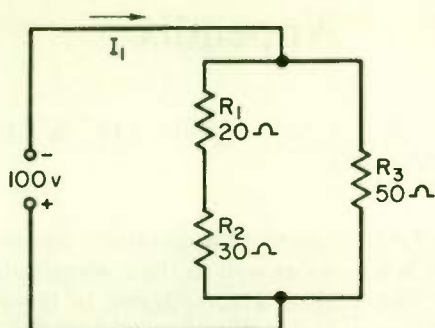

Fig. E.1
(1) air. (3) mica.
(2) Teflon. (4) processed ceramic material.
19. What is the voltage across R_2 in Fig. E.1?
(1) 0 volts (4) 40 volts (7) 75 volts
(2) 25 volts (5) 50 volts (8) 100 volts
(3) 30 volts (6) 60 volts
20. What is the value of current I_1 in Fig. E.1?
(1) 1 amp (3) 3.33 amp (5) 5 amp
(2) 1.03 amp (4) 4 amp (6) 10.3 amp
21. What is the power used by the entire circuit of Fig. E.1?